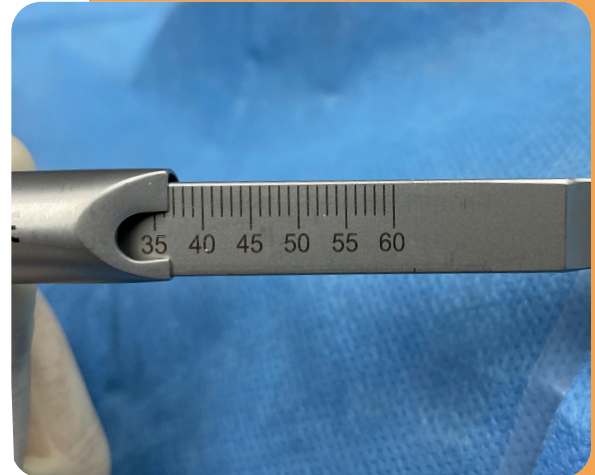

Fig. 18 - Read Depth Gauge Marking
- 11B** After pre-drilling, the Depth Gauge should be used such that the Depth Gauge body comes into contact with the bone and the Depth Gauge Wire can be placed through the predrilled hole. The hook at the end of the Wire can grab onto the far cortex. The measurement indicated by the Depth Gauge reflects the appropriate Half Pin thread length (Fig. 18).